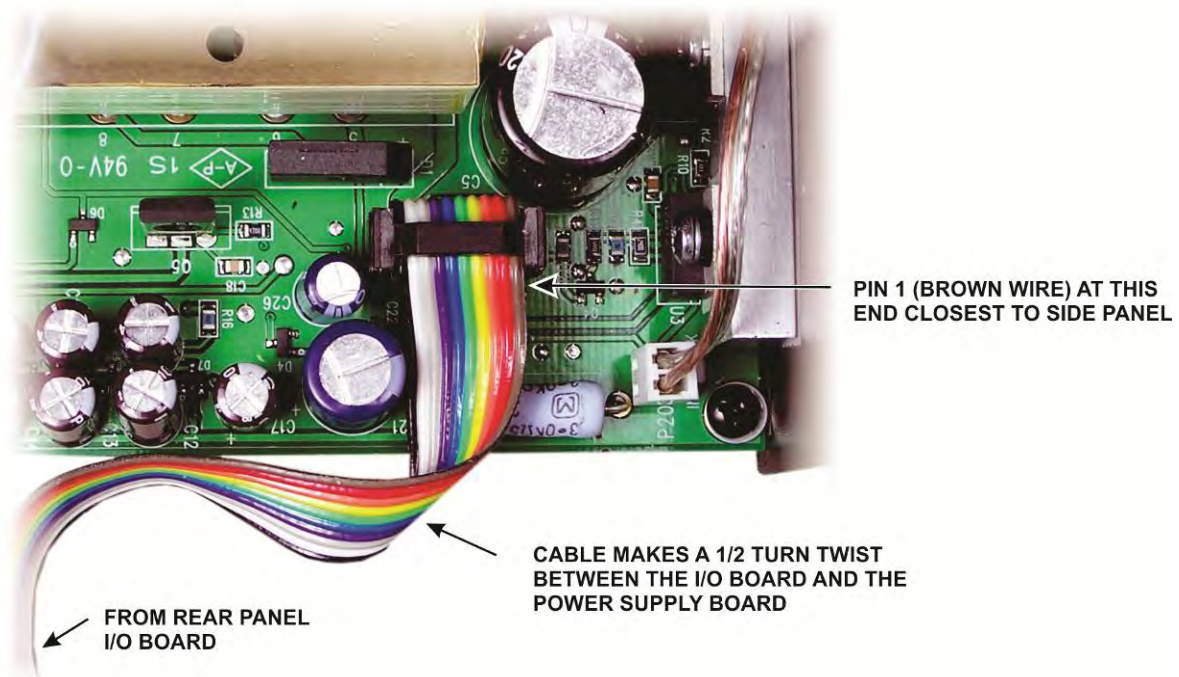

Figure 36. Connecting the 10-Wire Ribbon Cable to the Power Supply Module.
- Connect the 10-wire ribbon cable to the power supply module as shown in Figure 36. **Note the brown wire (pin 1) must go to the end of the connector nearest the KPA500 side panel. To do so it makes a 1/2 turn twist. Be certain the connector engages both rows of pins.**